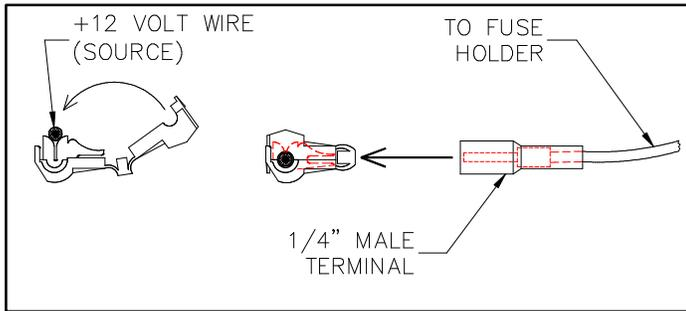

FIGURE 2-2: T-TAP INSTALLATION
2. Refer to **Figure 2-2**. Use the supplied "T-tap" to connect fuse holder lead to +12 volt source wire. Determine vehicle wire size (gauge) and select appropriate T-tap. T-taps are color coded as follows: